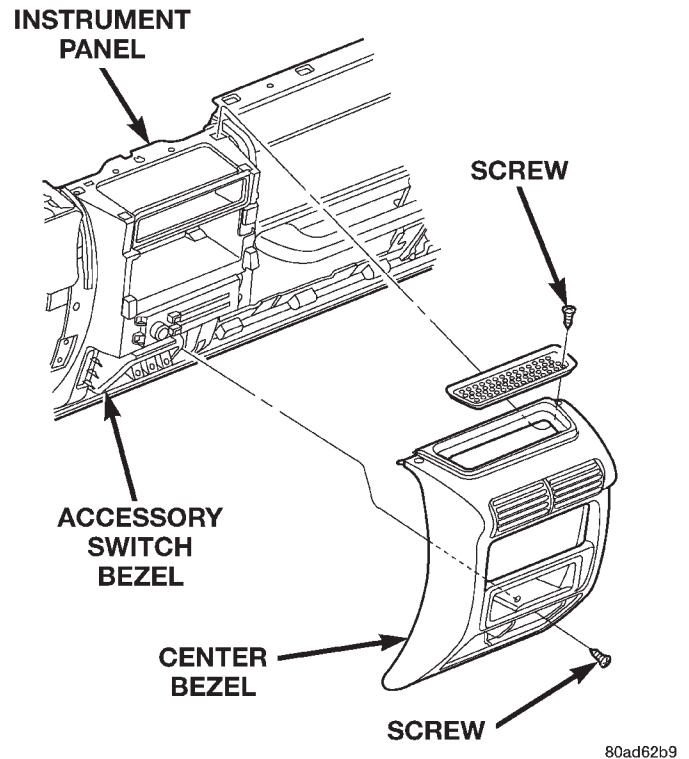

Fig. 4 Center Bezel Lower Screw
(2) Remove the instrument panel top cover from the vehicle.
(3) Remove the ash receiver from the center bezel.
(4) Remove the screw located in back of the ash receiver housing that secures the center bezel to the lower instrument panel (Fig. 4).